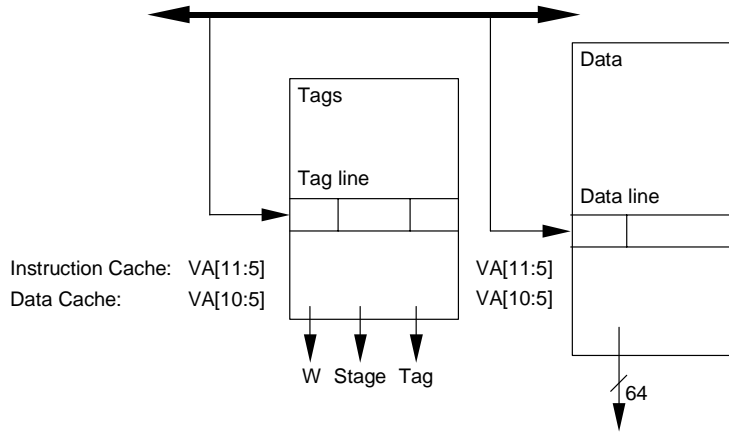

Figure 5.4.1 Primary Cache Data and Tag Organization
Figure 5.4.1 shows the virtual address (VA) index to the primary cache. Instruction cache size is 16 KB and Data cache size is 8 KB. The virtual address bits be used to index into the primary cache decided by the cache size.